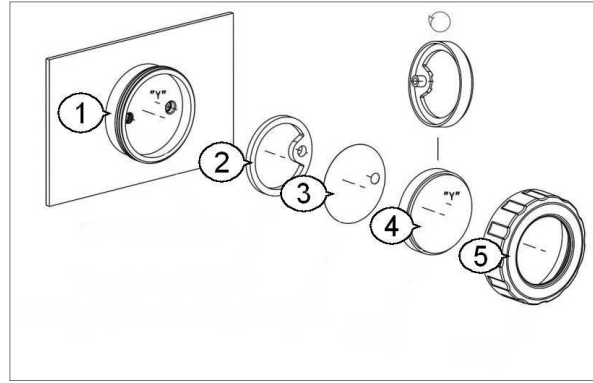

Figure 86 – Disassembled outer filter
7. Install the assembled cartridge into the filter base (1), ensuring the correct positioning of the elements by aligning the “Y” axes as shown in Figure 86;